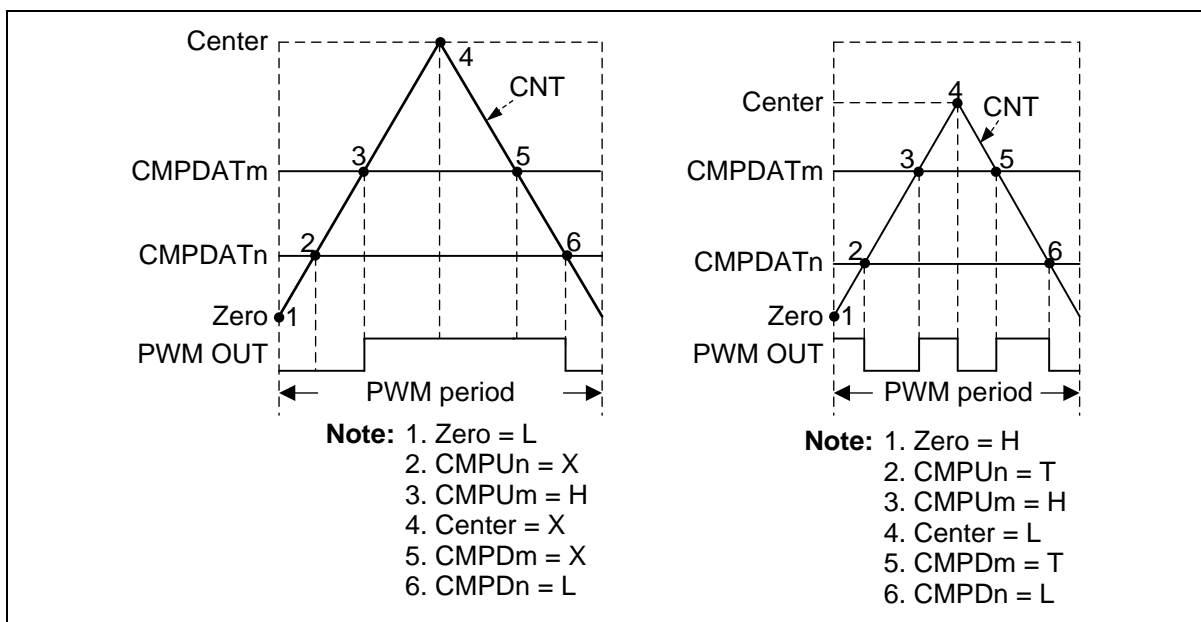

Figure 6.10-16 PWM Pulse Generation
Each event point can decide PWM waveform to do nothing (X), set Low (L), set High (H) or toggle (T) by setting the PWM\_WGCTL0 and PWM\_WGCTL1 registers. Using these points can easily generate asymmetric PWM pulse or variant waveform as shown in Figure 6.10-16. In the figure, PWM is in complementary mode, there are two comparators n and m to generate PWM pulse. n denotes even channel number 0, 2, or 4, and m denotes odd channel number 1, 3, or 5. n channel and m channel are complementary paired. Complementary mode uses two channels (CH0 and CH1, CH2 and CH3, or CH4 and CH5) as a pair of PWM outputs to generate complement paired waveforms. CMPU denotes  $CNT(PWM\_CNTn[15:0])$  is equal to  $CMP(PWM\_CMPDATn[15:0])$  when counting up. CMPD denotes  $CNT$  bits is equal to  $CMP$  bits when counting down.